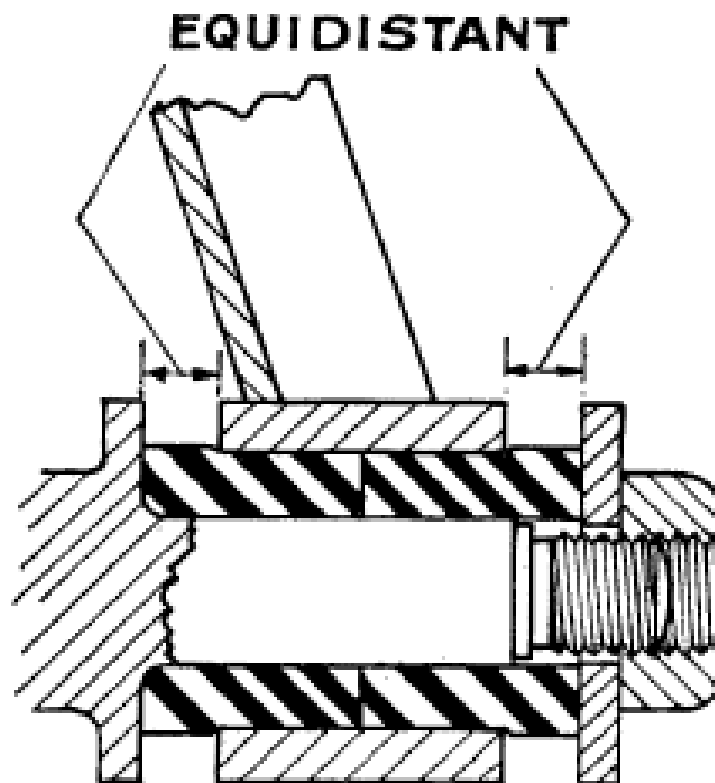

Fig. K.4 The correct method of clamping the rubber bushes of the lower suspension arm
To attain this, insert each bush so that it protrudes equally each side of the housing (see Fig. K.4), and then clamp up with the washer and nut and fit the cotter pins. When central, the outer flanges of the bushes should all be of equal proportions.
3. Before the lower steering knuckle link is bolted in position ensure that both thrust washers and rubber seals are fitted correctly (see Fig. K.4) and make sure that the links have a total end clearance of $-.008$ to $.013$ in. (2 to 33 mm.) between the end faces of the link and the thrust washers.
To attain this, insert each bush so that it protrudes equally each side of the housing (see Fig.K.4), and then clamp up with the washer and nut. When central, the outer flanges of the bushes should be of equal proportions. It is essential to clamp up the bushes when the suspension levers are set parallel with the ground to ensure even stresses on the bushes.
Swing down the hub unit and fit the lower fulcrum bolt. Note-Take care that the thrust washers, rubber seals and retainers are assembled in the right order. (See Fig. K.4.)